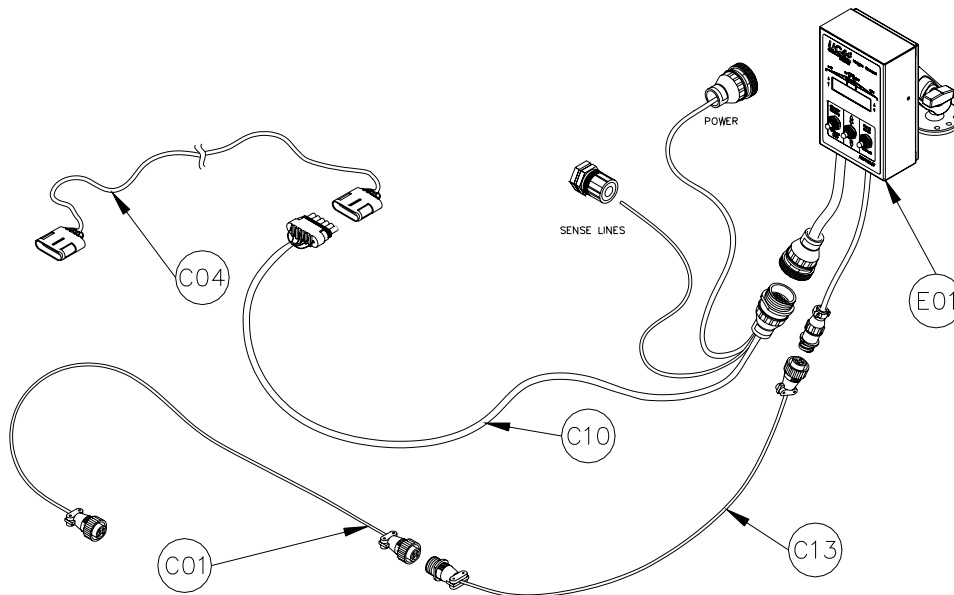

Figure 24 – Cable Configurations: C10, C13, C01 and C04
6. Connect the 16-pin AMP plug on **C10** to the UC4+ Control Panel (**Figure 24**).